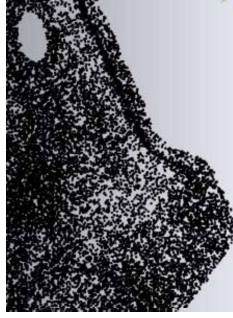
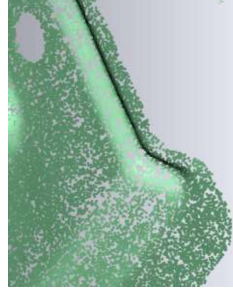

Figure 21 - Unshaded Point Data
Figure 22 - Shaded Point Data
- Unordered point data may contain normal/vector information or not, point data which contains no normal information will be black in color, as shown in **Figure 21**. The same point data after shading is shown in **Figure 22**.